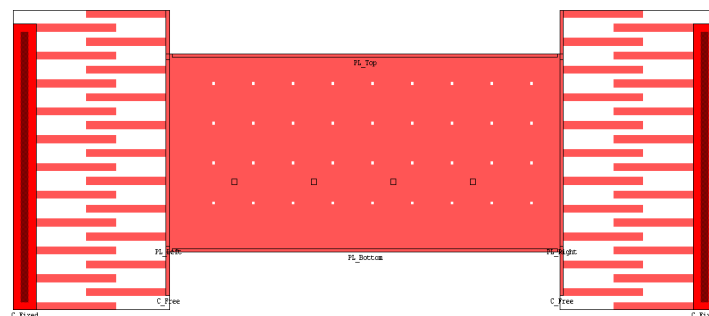

Figure 15: Viewing the incomplete design
- ☑ Attach the second comb-drive to the left side of the plate (Figure 15).